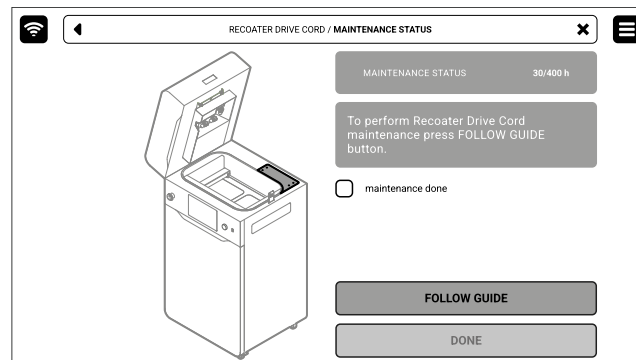

Fig. 12.61 The screen of the maintenance of the Recoater Drive Unit Cord.
3. In this case, mark **MAINTENANCE DONE** once you have completed the procedure, and then the **DONE** button. The timer will reset to zero (fig. 12.61).